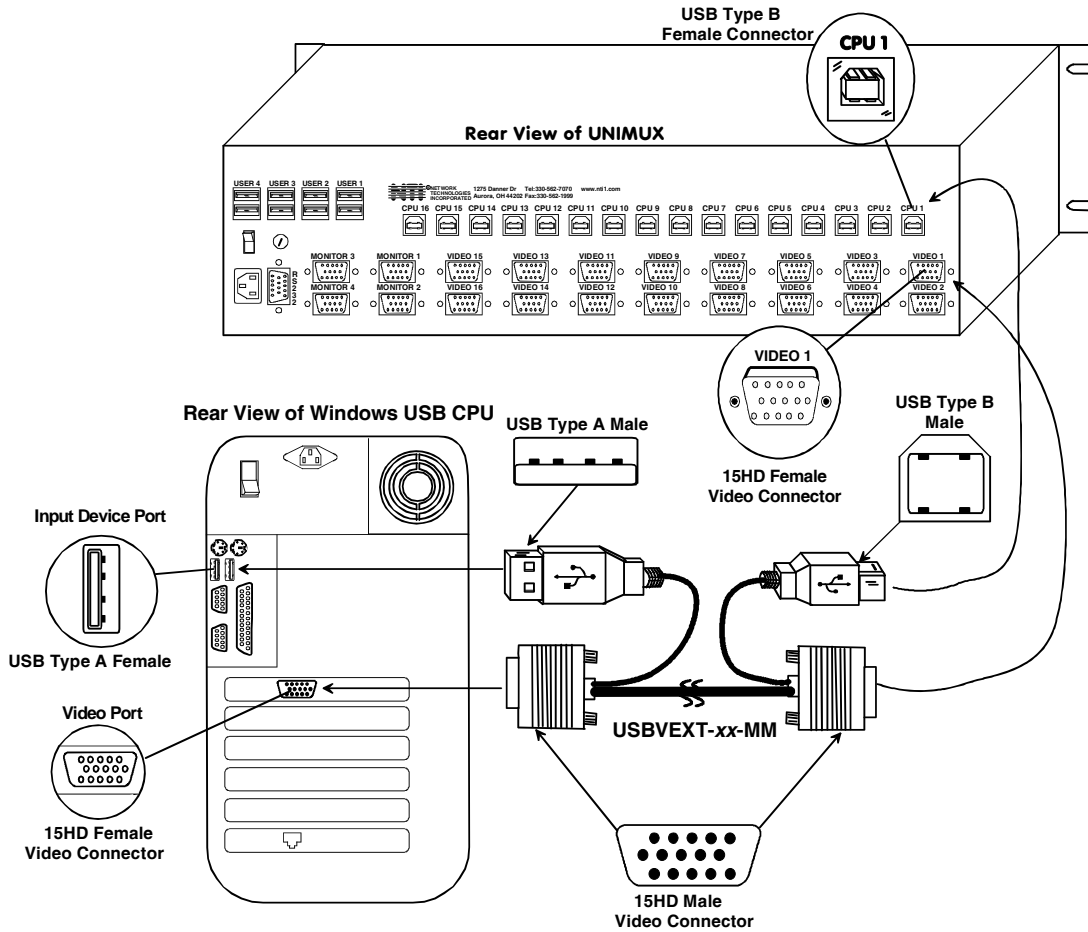

Figure 7- Connect each CPU using a USBVEXT-xx-MM cable
**Note:** Make sure the CPU is connected to a Keyboard port and a Video port with the same number. (See Figure 7.)